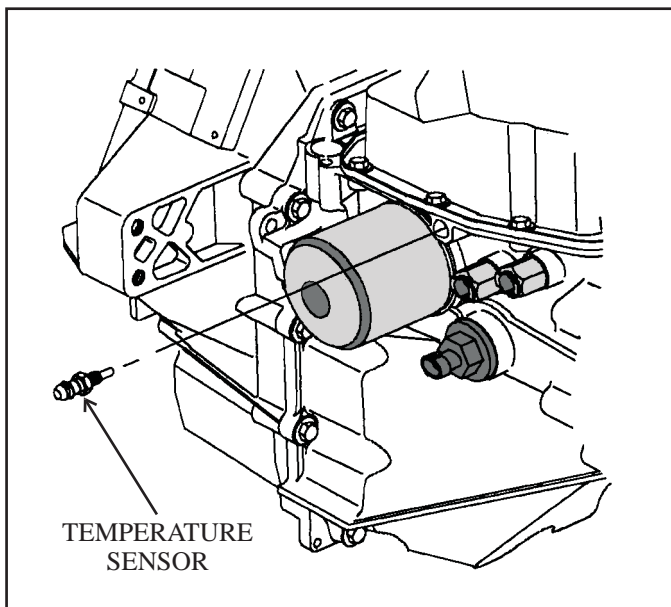

Figure 14
2. Remove the temperature sensor from the case (See Figure 14).